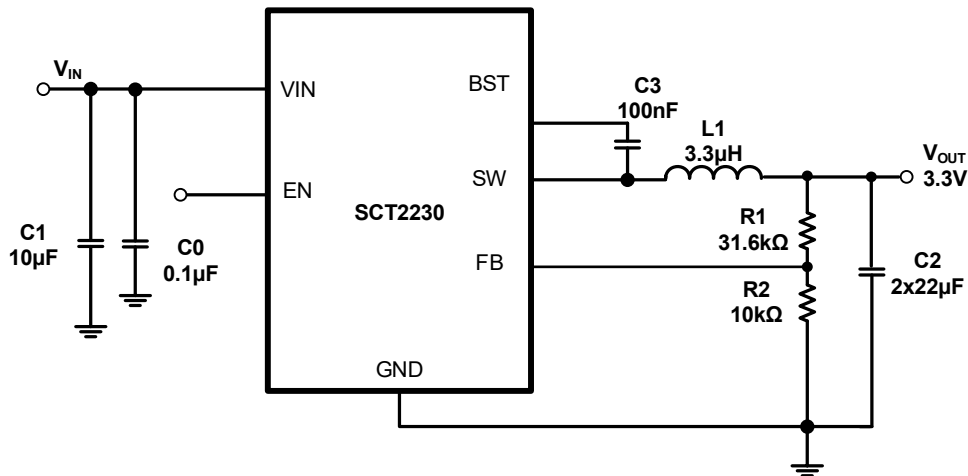

Figure 8. 12V Input, 3.3V/3A Output
The SCT2230 features external programmable output voltage by using a resistor divider network R1 and R2 as shown in the typical application circuit Figure 8. Use equation (8) to calculate the resistor divider values.